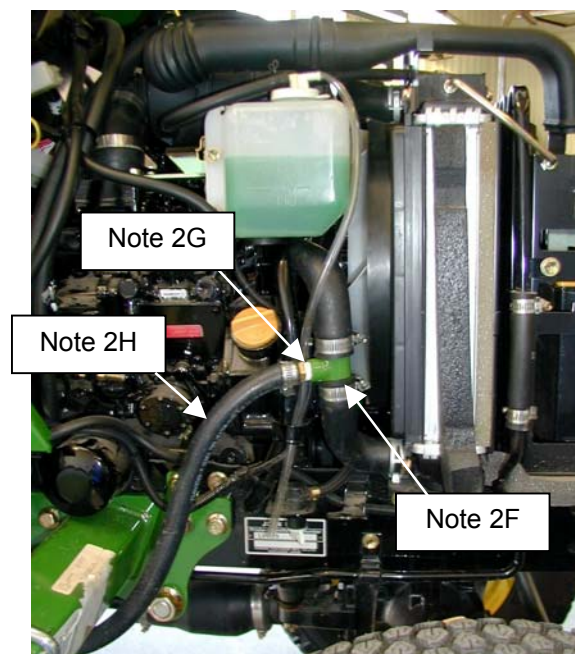

Figure 2
- 17) Lower cab over roll bar until cab contacts front and rear isolator bushings. (Guide Folding ROPS into the roof shell area). Secure cab to mounts using (4) 1/2" x 3 1/4" bolts, (8) large flat washers, and (4) lock-nuts. See Figures 2, 3 and 15.
- F. The lower radiator hose will need to be cut for installation of the lower radiator hose "T" fitting #7-11308. See Figure 2.
- G. Install 5/8" hose to NPT fitting #3-12119 into the lower radiator hose "T" fitting. See Figure 2.
- H. Measure and cut the 5/8" heater hose from the right side (Return Line) of the cab with the 90-degree elbow #3-10282 to the lower radiator hose "T" nipple fitting. See Figure 2.